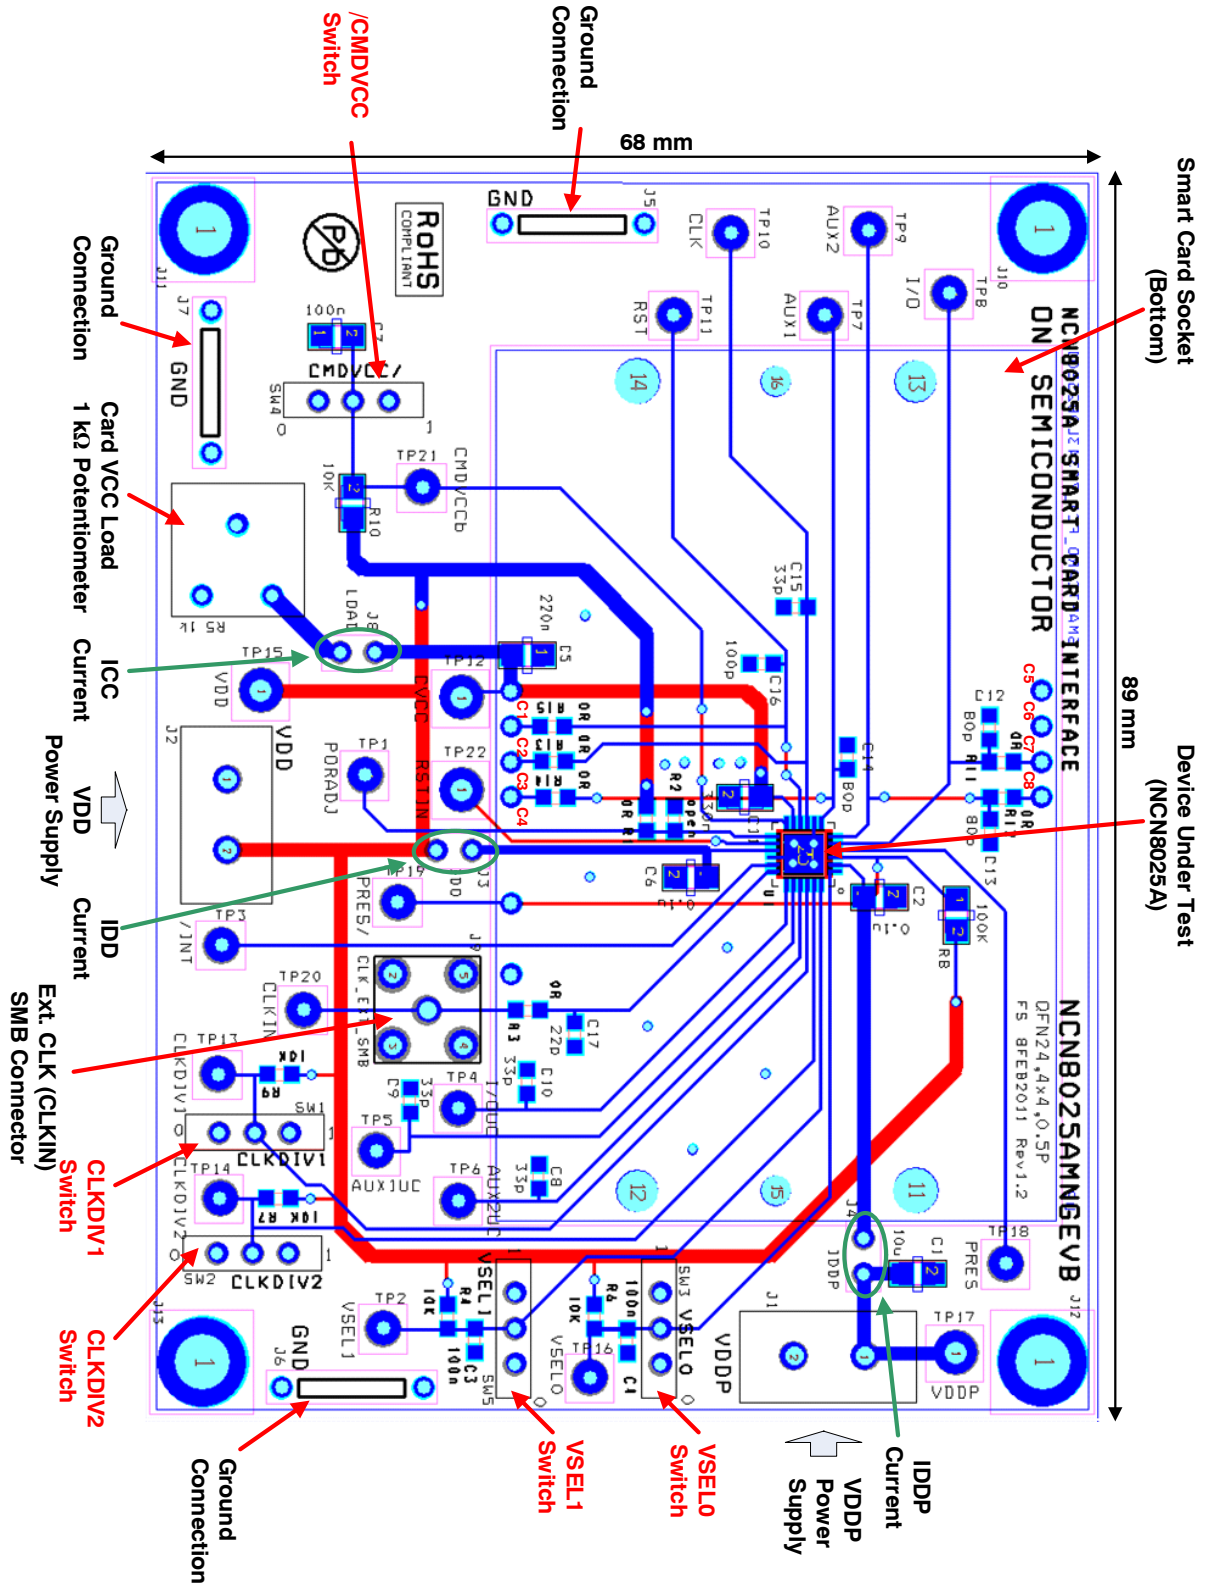

Figure 2. Board Description
See Figure 2.
- 2 pins are used to change the Card VCC power supply or the smart card interface mode which can be 1.8 V, 3.0 V or 5.0 V. These 2 pins are VSEL0 and VSEL1 and on the board, changing VSEL0 and VSEL1 is done using 2 corresponding switches (see Figure 2) according to the below Table 1. When VSEL0 = 0 then VSEL1 is in the mode 5 V / 3 Vbar, when VSEL0=1 then VSEL1 is in the mode 1.8 V / 3 Vbar. The initial setup can be VSEL0 = 0 and VSEL1 = 1 for selecting the 5 V mode. The card VCC (CVCC) output voltage cannot be changed on the fly when the smart card interface is active (/CMDVCC = Low). For changing card VCC it is necessary to deactivate the device then to reconfigure the card VCC by setting the appropriate VSEL0 and VSEL1 finally the smart can be activated again with this new smart card power supply voltage.